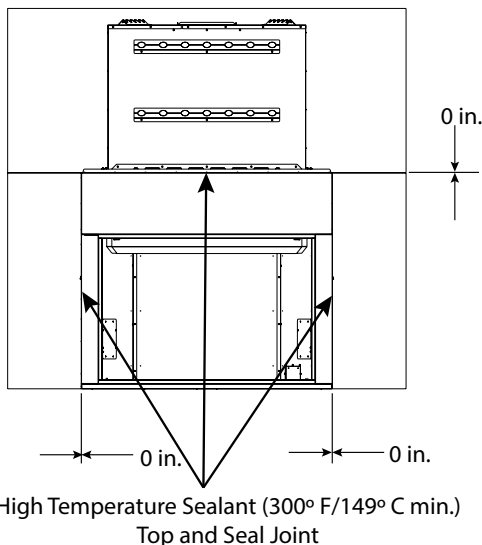

Figure 10.1 High Temperature Sealant
- Seal joints between the finished wall and appliance top and sides using a 300° F minimum sealant. Refer to Figure 10.1.